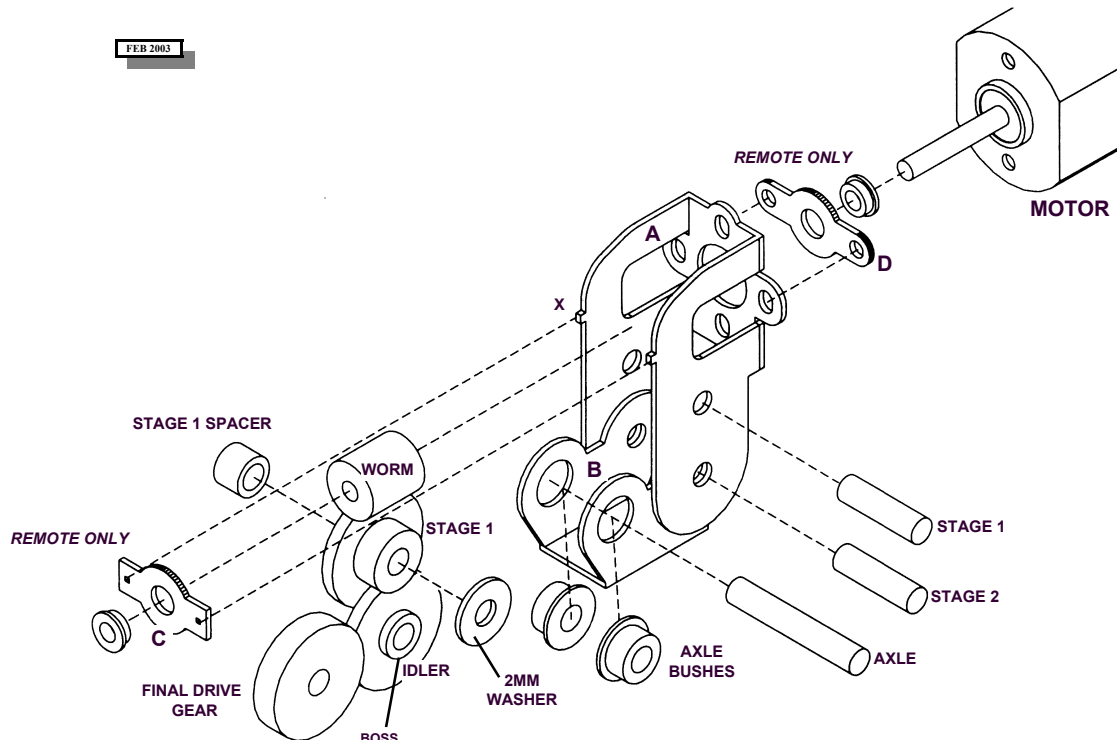

FIG. 1
Study Figs 1 and 2. Before cutting the gearbox etch from the fret, progressively ream out each of the **holes** to the sizes shown in Fig 2. Components should be offered up until they a tight push-fit in their holes. Once the gearbox is assembled, the shafts are fixed but the gears are free to revolve. Remove burrs by inserting the tip of a drill bit (of much larger diameter than the hole) and gently rotating it between your fingers.
Now cut the etches from the fret with a heavy blade and trim off the tabs, taking care not to accidentally remove any locators. **Fold up the gearbox** (A) as shown in Fig. 1, using flat nosed pliers to grip the motor mounting plate near the bend lines when doing so. This will prevent the plate from accidentally buckling across the hole centres. All bends are 90 degrees, with the bend lines on the inside of the gearbox. Add fillets of solder to the inside of the folds to strengthen the gearbox. If you are using the **remote attachments**, open out the small location holes in the front attachment (C) so they fit snugly over the locators (X) on the main gearbox etch, and then solder it in place. Now fold up the final drive carriage (B) and strengthen with solder, as above. De-flux the gearbox and carriage by scrubbing them with household cleaner, then rinse and allow to dry. If they are likely to be visible then **paint** them black.
Refer to Fig. 1. The stage 1 double gear will be one of three types - 15/10T (30:1), 20/10T (40:1) or 27/10 (54:1) - depending on the overall reduction ratio of the gearbox. Fit the **stage 1 gearshaft**, double gear (according to ratio) the spacer bush and the etched thrust washer (with the ribbed side facing the gear) into the gearbox. Sight through the opening in the gearbox sides to check the mesh with the worm - there should be daylight between the gear and the worm, but avoid having too much backlash. Some modellers may prefer a deeper mesh (especially for a heavily loaded loco) but avoid 'bottoming out' the gears. If the mesh is too shallow, the gears may wear or even come out of mesh. If necessary, loosen the motor fixing screws, adjust the mesh and then lightly glue the shaft in place.